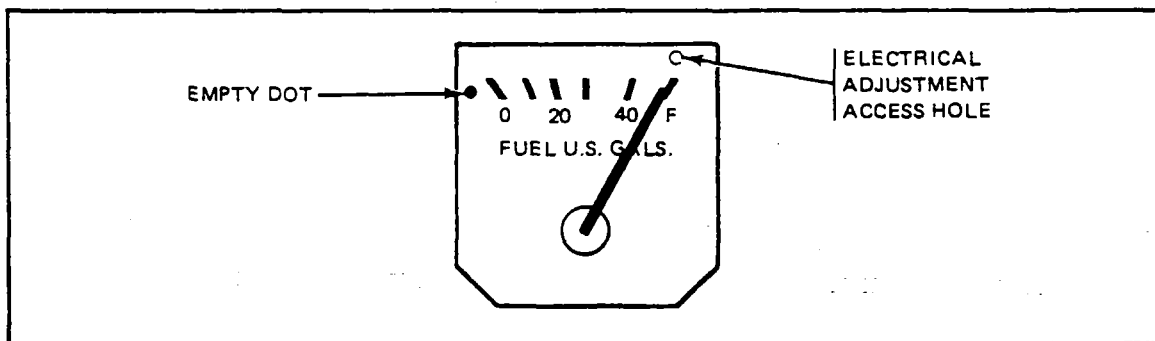

Figure 8-4. Fuel Gauge (PA-32R-300)
i. With the tanks full and master switch "ON," the needle should be centered on the "F" radial mark within  $\pm 1$  needle width. If not within this tolerance, adjust the electrical adjustment (refer to Figure 8-4) just sufficiently to bring it within tolerance; do not center the needle.